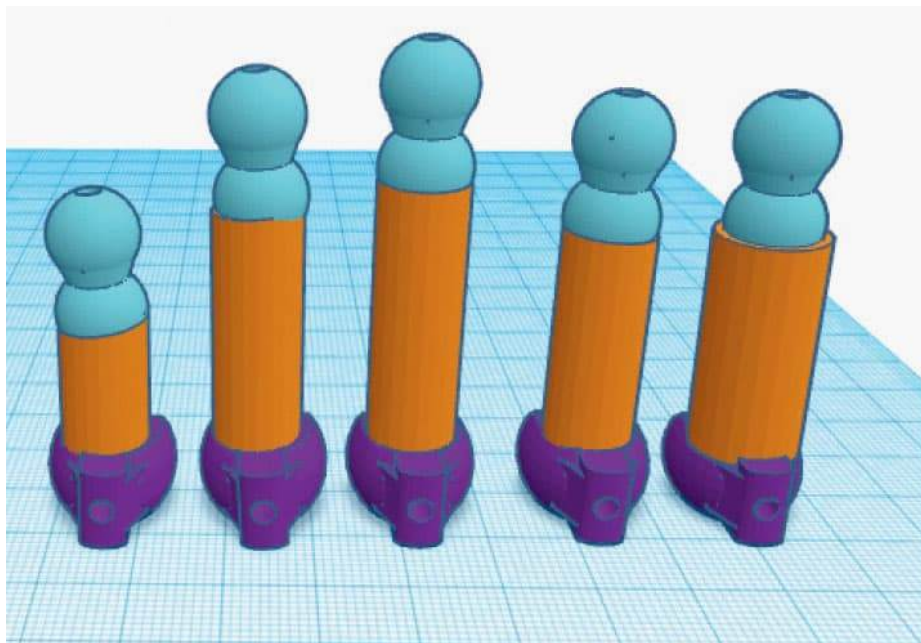

FIG. 4: Add sockets for the knuckle joints to the finger at the opposite end from the ball joints.
5. Repeat steps 3 and 4 to create the rest of the fingers as shown in fig. 4. Add a knuckle (see step 2) to the other end of each finger as seen in fig. 4. The proximal phalanx will attach to this knuckle.